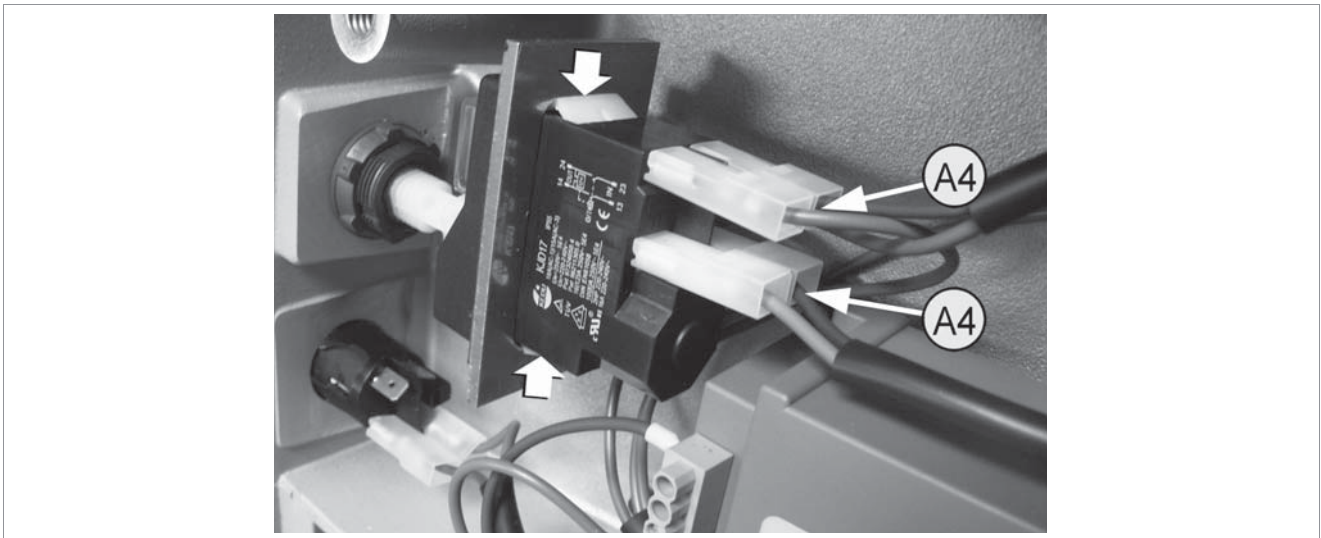

Fig.66
- 3) Disconnect the 4 connectors (A4) on the switch, observing their position carefully (Fig.66).